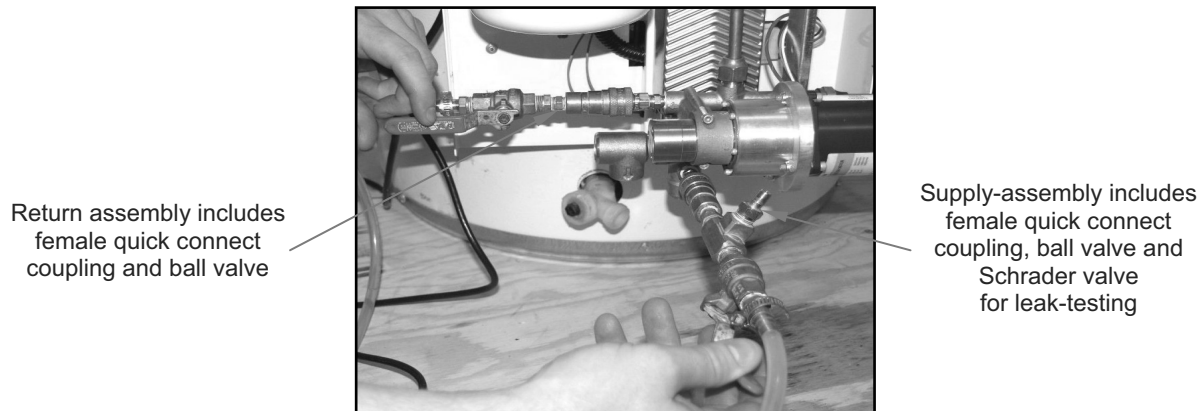

Fig.5.1.1 – Charge Kit supply and return assemblies.
1. Connect fluid line out from charge pump to forward-facing male quick connect, located below Energy Station pump on lower manifold (Fig.5.1.1). Supply connection assembly includes female hydraulic quick connect coupling, ball valve and Schrader air valve.
2. Connect return line (that will return fluid from appliance to reservoir) to left pointing male quick connect (when facing Energy Station) on lower manifold (Fig.5.1.1). Return connection assembly includes female hydraulic quick connect coupling and ball valve.